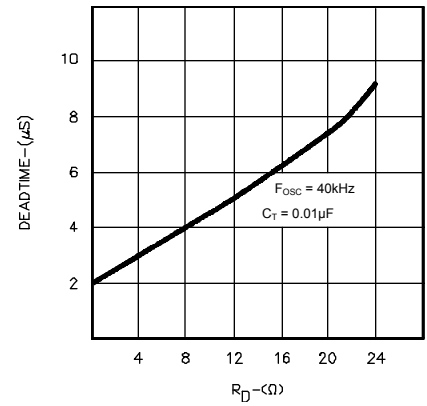

FIGURE 12.
2. If more dead time is required, select a larger value of  $R_D$  using Figure 12 as a guide. At 40 kHz dead time increases by 300 ns/ $\Omega$ .